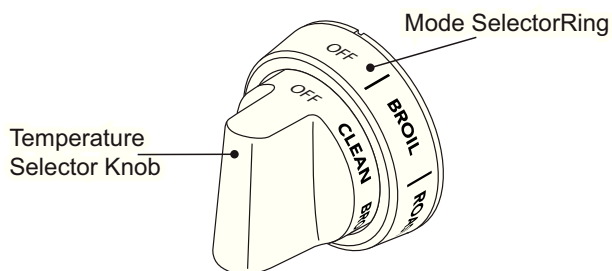

Figure 32: Mode Selector Ring & Temperature Knob
- Set Mode Selector Ring (*Figure 32*) to Bake, Convection Bake, Roast, or Convection Roast.